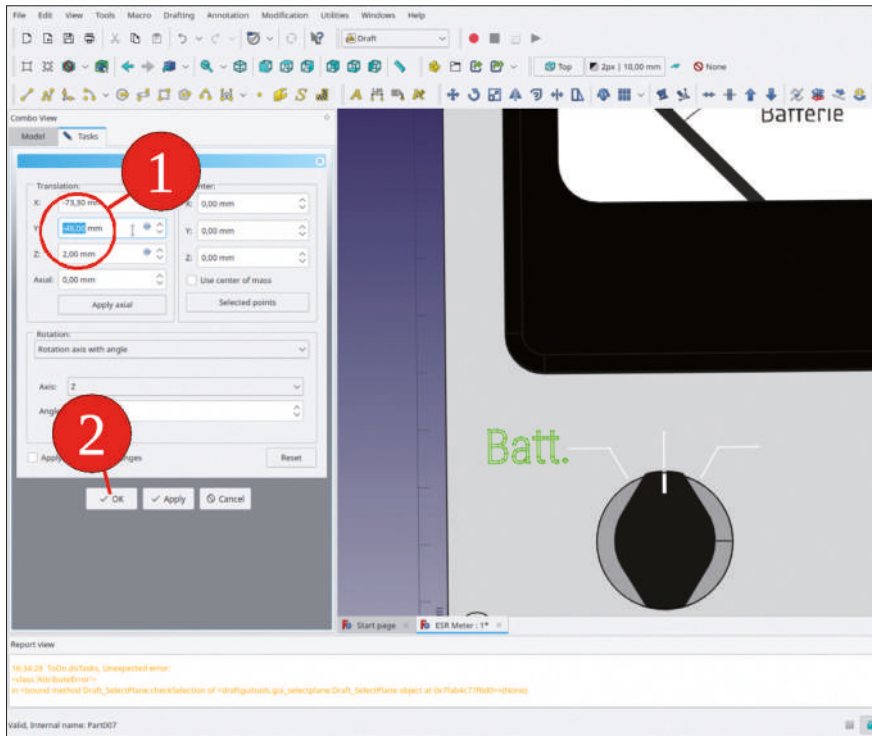

Figure 8-29
5. Edit the placement parameters (there, the placement can be modified with live update) and move X and Y coordinates with the mouse wheel, until the label appears at a good position (Figure 8-29). Close the task window with the OK button.